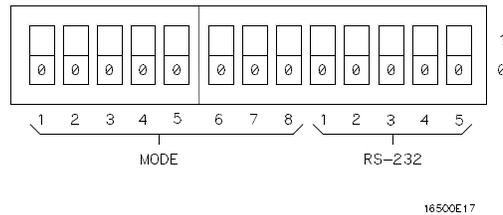

Figure 7-6. Switch Configuration for HP ThinkJet Printers.
- For the HP 2225D (RS-232 HP ThinkJet) printer, the mode switches are on the rear panel of the printer. Push all the switches down to the “0” position as in figure 7-6.